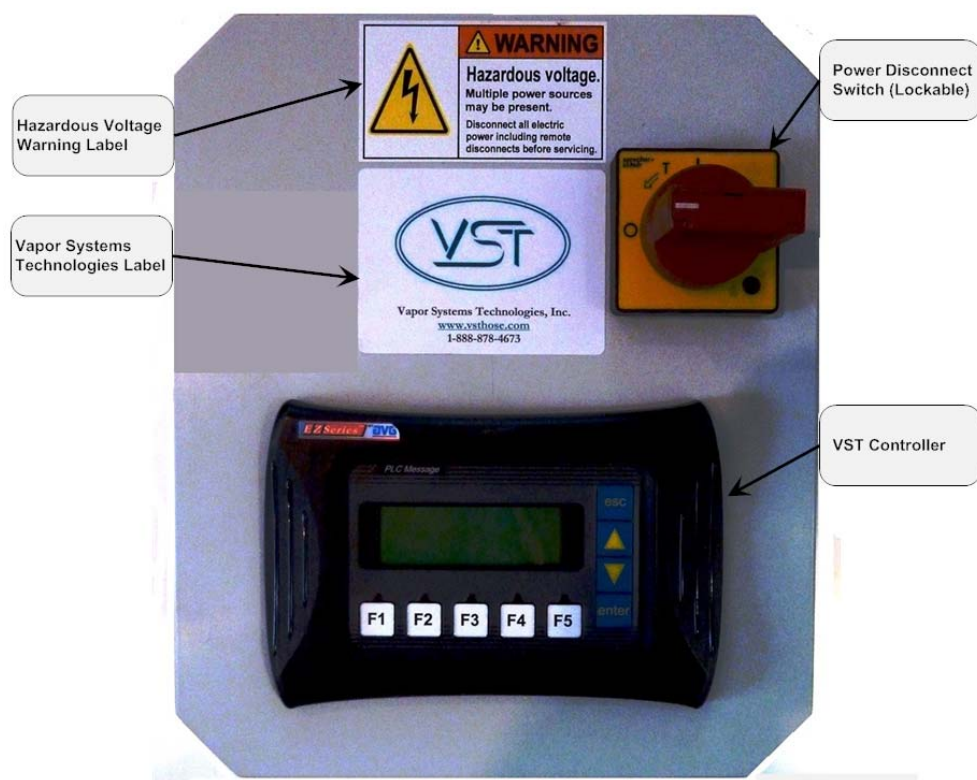

Figure 12: VST Green Machine Control Panel Front View
- The RS422 to RS232 adapter is attached to the top of the VST Control Panel. See **figures 12 & 13**.